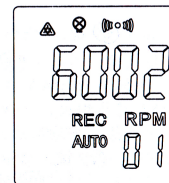

Fig.5
- 2. Power button:** Press button ① to turn it on. Long press ① more than 3 seconds to turn it off. Short press ① to light the LCD.
- 3. Manual measuring button:** Press button ② to start measuring. Point the laser to the object to get the data. Stop pressing the button and you get the data hold.
- 4. Automatic measuring button:** Press button ③ to start measuring and the sign "AUTO" will light. The meter will always keep measuring so you must press ③ again to stop measuring and get the data you need.
- 5. Automatic data record button:** First press button ④ to start Automatic measurement and then press button ⑤ to start to record 50 sets of data. The sign "REC" will flicker and the lower right LCD will display the count of sets (Like the Fig5). After the record was over, the sign "REC" will vanish.